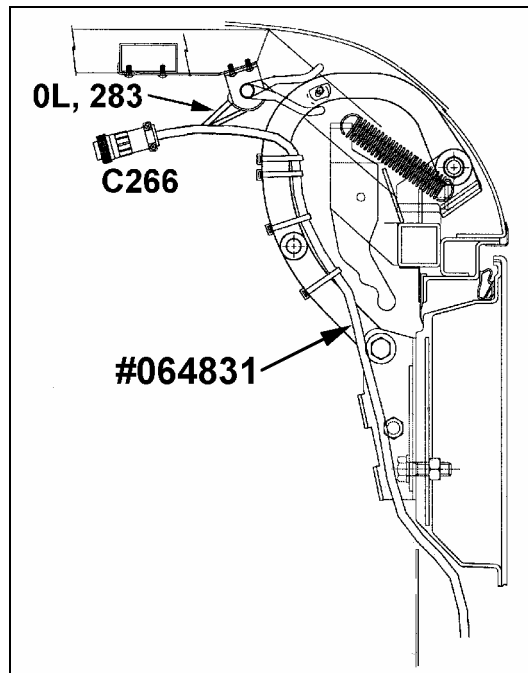

FIGURE 2: HARNESS #064831 AND DOOR HINGE
3. Plug connector C266 of harness #064831 to connector C266 of keyless module then route new harness all along door top hinge up to door interior. Fix harness and connector on door hinge with nylon ties (figure 2).